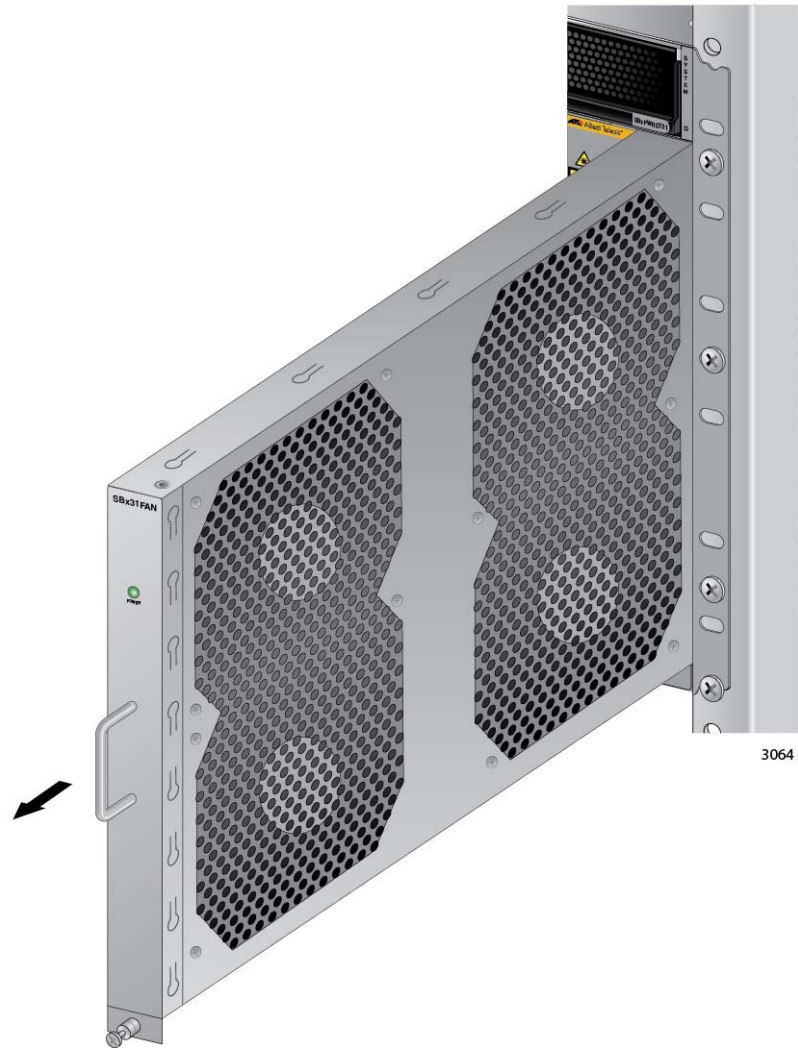

Figure 192. Removing the AT-SBxFAN12 Fan Module from the Chassis
6. After the fans have stopped, slide the module from the chassis. Refer to Figure 192 on page 304.